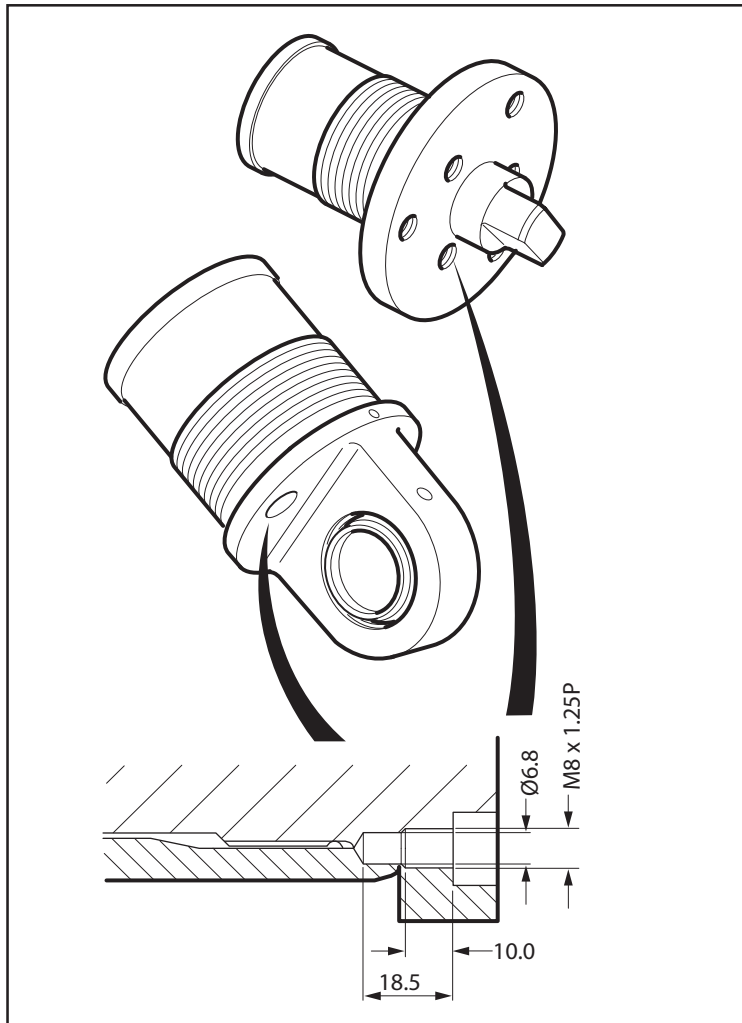

FIG 11
3. Using a 6.8mm diameter drill the pre-drilled hole to an overall depth of 18.5mm (refer fig.11). This dimension **MUST NOT** be exceeded.